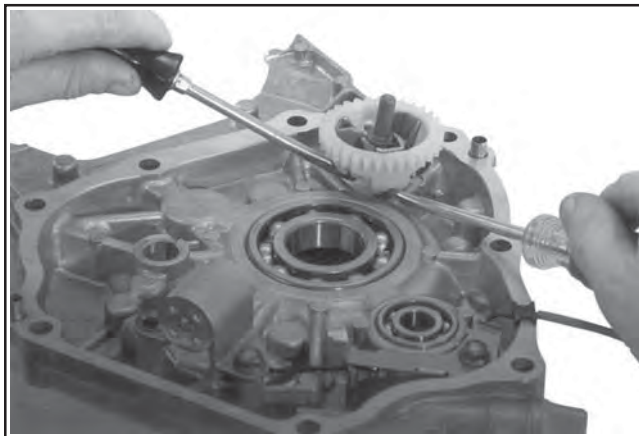

Figure 9-79. Removing Governor Gear.
5. Remove the governor gear/flyweight assembly by carefully applying upward pressure with two small screwdrivers between the gear and the closure plate bosses. This will unseat the retaining ring from the groove, allowing removal of the gear and mounting components by pulling upward. Do not pry against the gasket surface. Note the placement and order of all parts. See Figure 9-79.